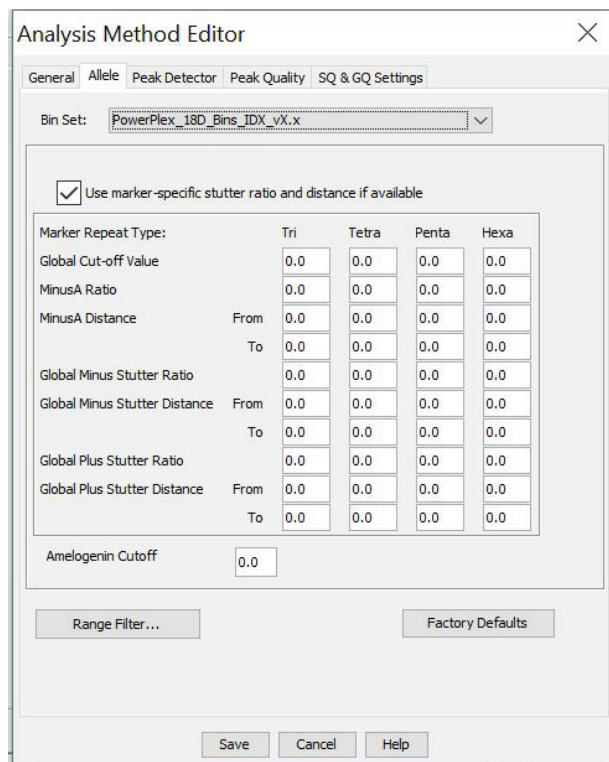

Figure 25. The GeneMapper® ID-X Software 'Allele' tab.
6. Select the 'Allele' tab (Figure 25).
8. Ensure that the "Use marker-specific stutter ratio and distance if available" box is checked. Doing this will assign locus-specific stutter files and distances from the imported stutter file (Figure 25).